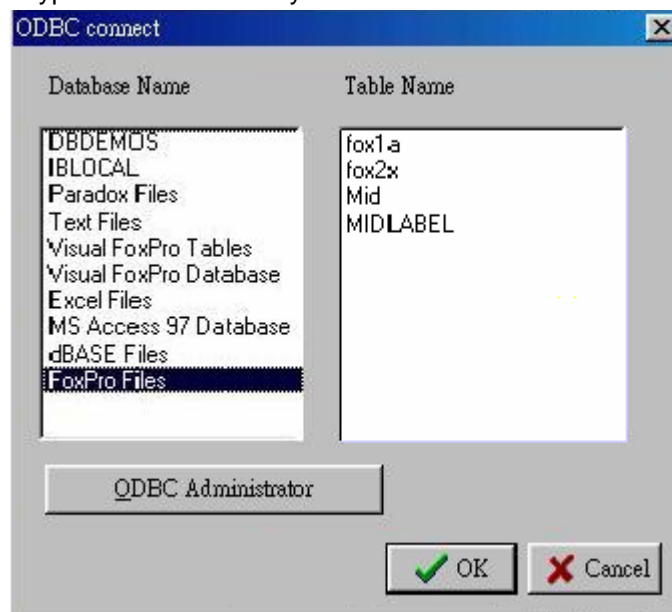

Fig.16.2
1. On the Database menu, click ODBC Connect. (refer to Fig.16.2)